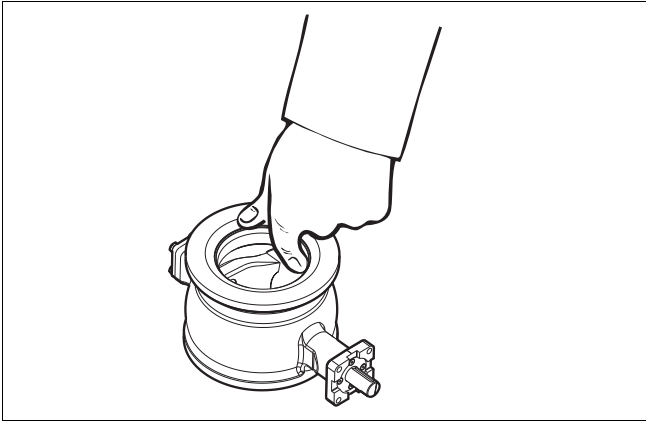

Fig. 20 Turning the ball segment
- Turn the segment (3) so that it does not touch the seat, Fig. 20.